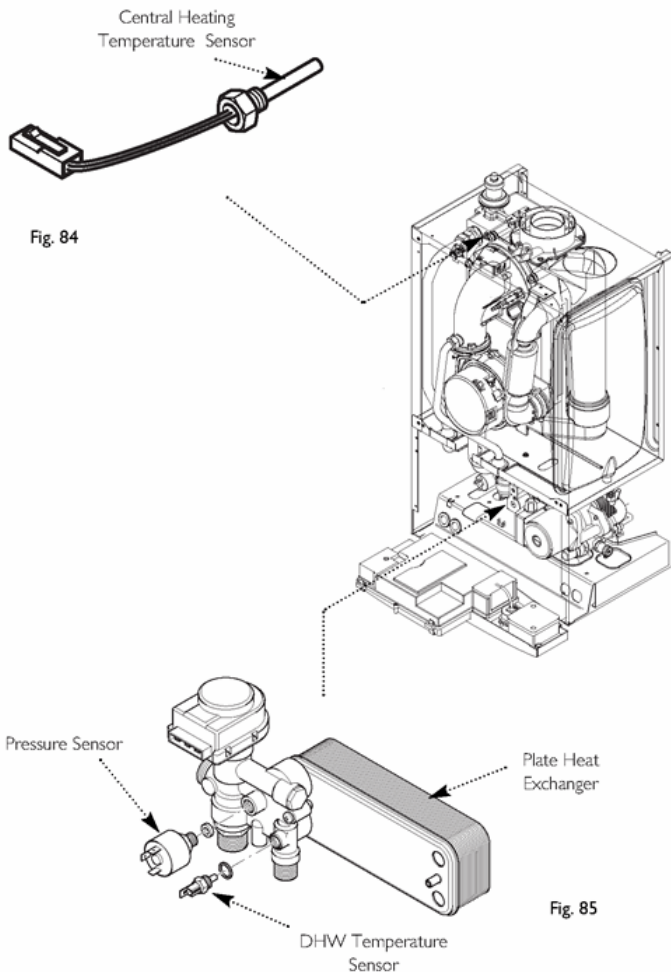

Fig. 84 & Fig. 85
14.8 Central Heating Temperature Sensor (NTC) (Fig. 84)